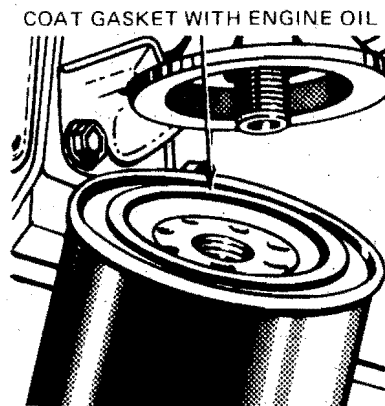

FIGURE 5. OIL FILTER ASSEMBLY
**Oil Filter Change:** Spin off oil filter and discard it. Thoroughly clean filter mounting surface. Apply a thin film of oil to filter gasket and install new element (Figure 5). Spin element on by hand until gasket just touches mounting pad and then turn an additional 3/4 to 1 turn. Do not overtighten.